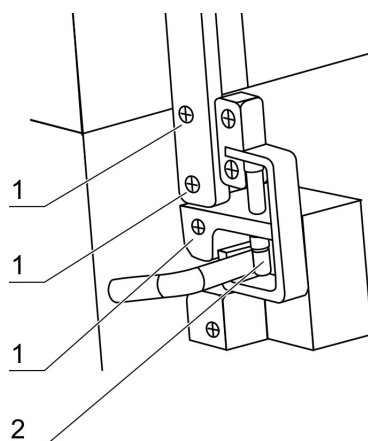

Figure 73. Front frame latch
3. Remove the front door side covers. The covers are secured with screws to the frame and to the lower cross-member (see **Figure 73**).
4. Remove the cross-member (see **Figure 73**).
5. **Figure 73:** Remove the retaining screws [1] and remove the latch.